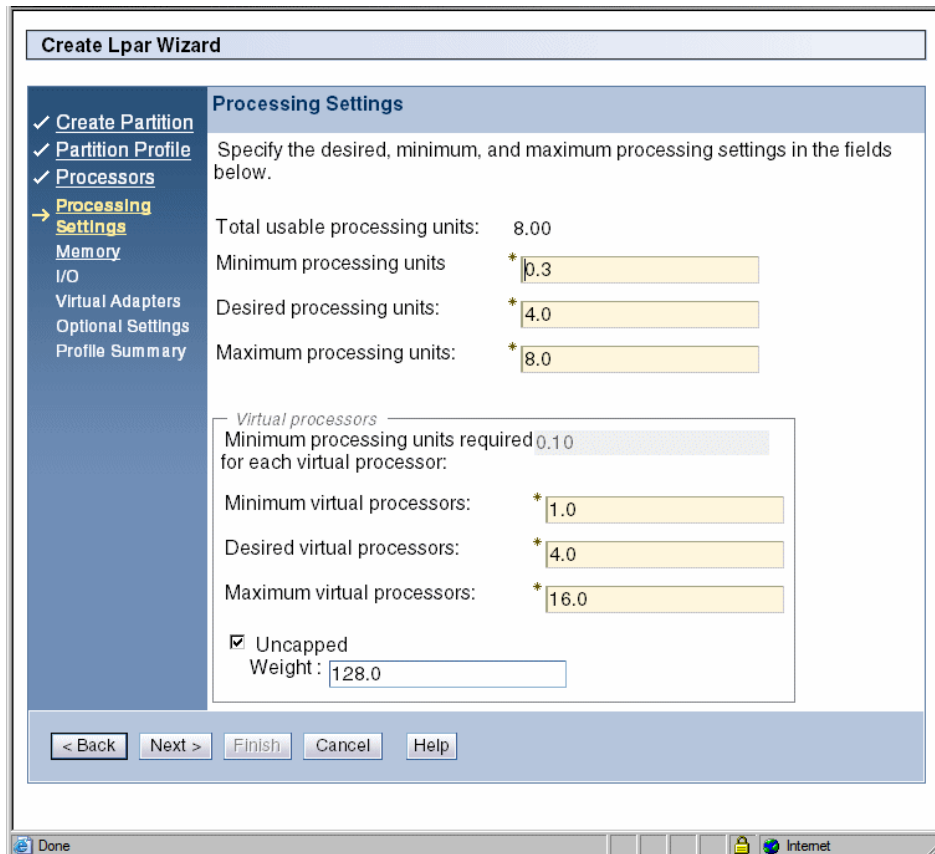

Figure 7-12 Shared partition settings
- Specify the processing units for the partition as well as any settings for virtual processors, as shown in Figure 7-12. The sections that immediately follow this figure discuss the settings in this figure in detail.